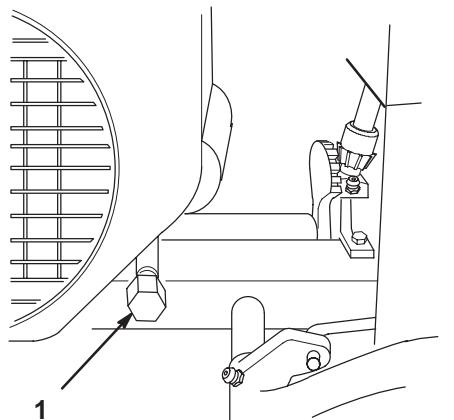

Figure 25
4. Place a pan below the oil drain. Open the drain by removing the cap (Fig. 25).